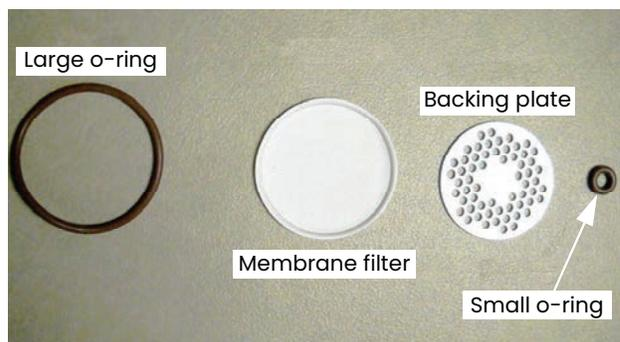

Figure 98: O-rings, membrane filter and backing plate removed
7. Using a tissue, clean the filter components (see *Figure 98* below).